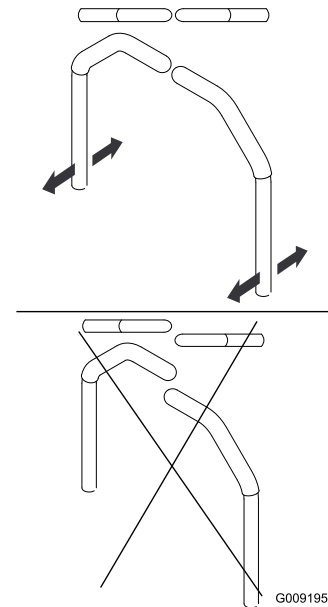

Figure 64
4. Align the levers in the front-to-rear position by bringing the levers together to the NEUTRAL position, and slide them until they are aligned, then tighten the bolts (Figure 64).